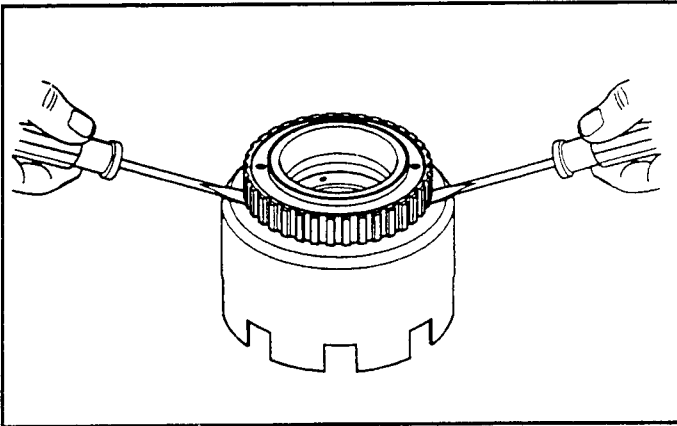

Figure 147
11. Remove the 2nd roller clutch assembly retainer (450) by prying up on the roller clutch outer race with two large screwdrivers, as shown in Figure 147. The 2nd roller clutch retainer is pressed onto the reverse input clutch housing, **and is not reusable after being removed.**